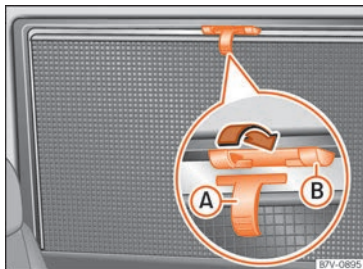

Fig. 127 On the rear right-hand window: curtain.
- Pull the sun blind by the handle » **Fig. 127** **A** up to the top.